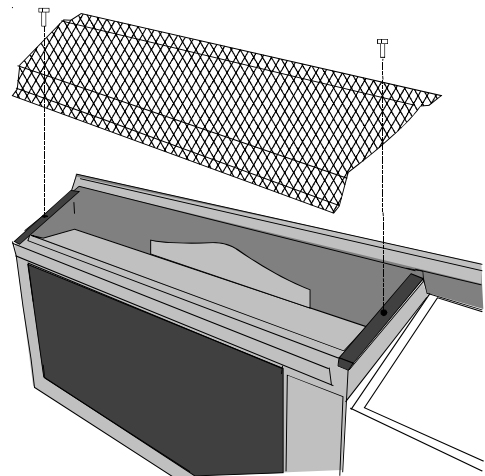

Figure 1
3. Remove the discharge screen by unscrewing two screws holding the screen to the blower panel. Set screen aside (Figure 1).